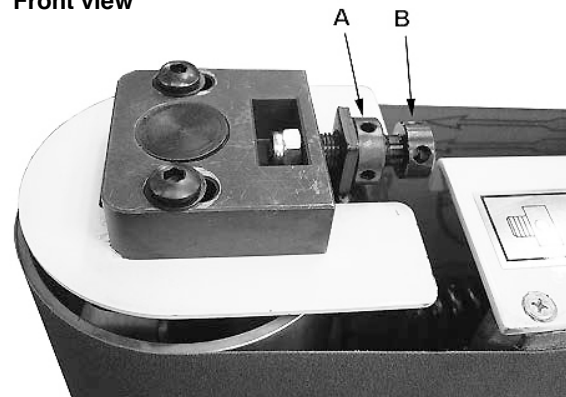

Fig. 8: Adjustment of the tape run
Step 2: Insert the supplied adjustment tool into hole A (Fig. 8) and turn it away from the adjuster to release the adjuster.
Step 4: Lock the adjusting device by inserting the supplied adjusting tool into hole A (Fig. 8) and turning it towards the adjuster.